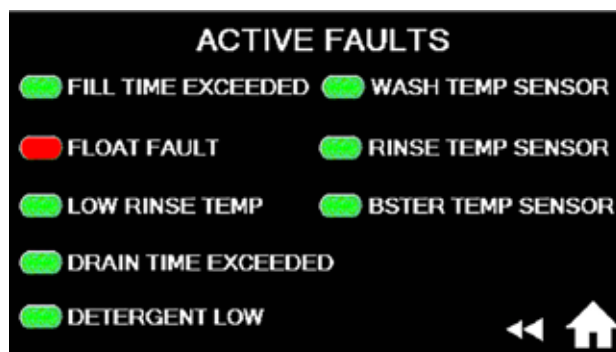

Fig. 40 - ACTIVE FAULTS screen
2. A green light indicates no fault, a red light indicates a fault is active, (Fig. 40).